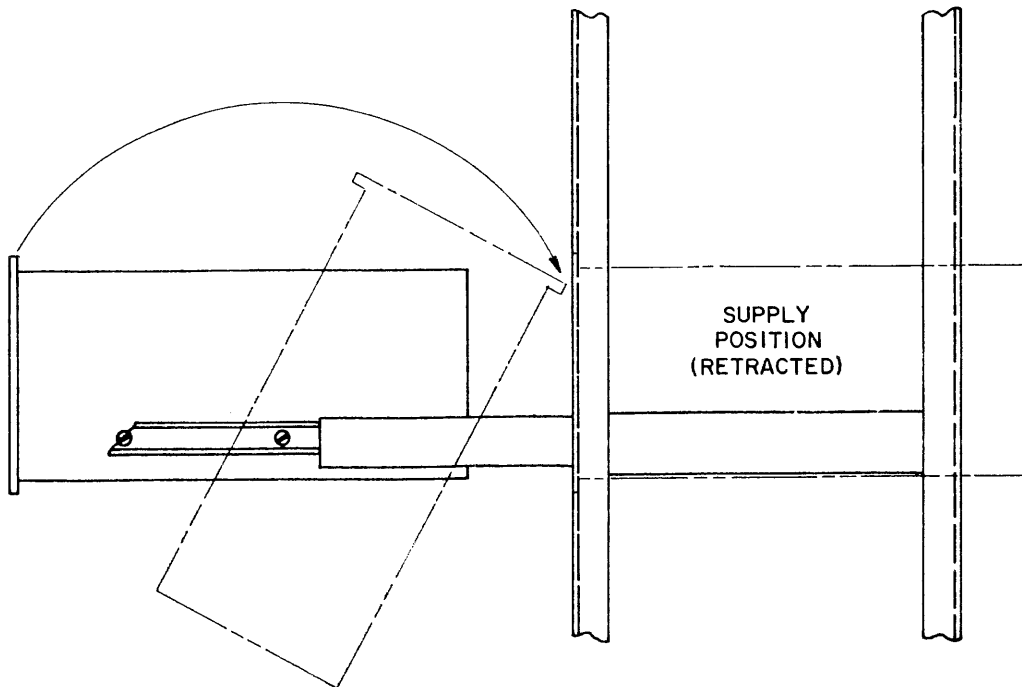

Figure 6-4. Supply Movement Range
- e. Place the supply in the slides by lifting from both sides and inserting the chassis slide sections into their tracks in the intermediate sections. Push inwards until the extension locks engage, then check to ensure that the supply may be freely rotated upwards for access to the underside. Check also for freedom of travel into and out of the frame. Refer to figure 6-4.